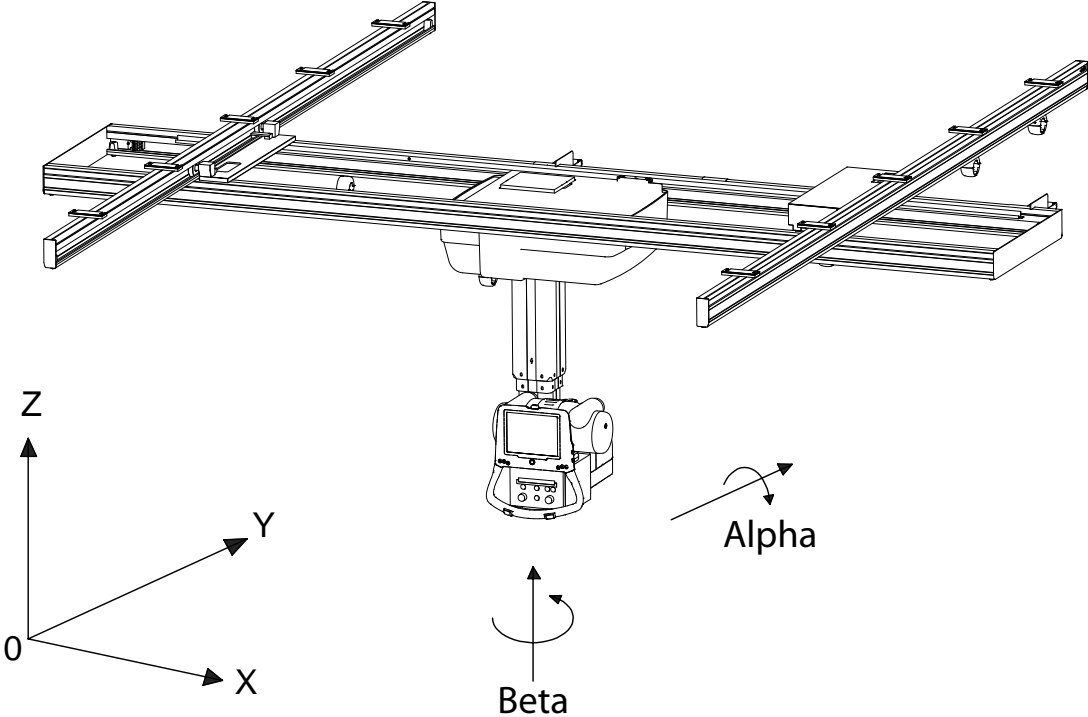

Fig. 5-114
2. Move the stand (X-axis) to its calibration point. See Fig. 5-114 .